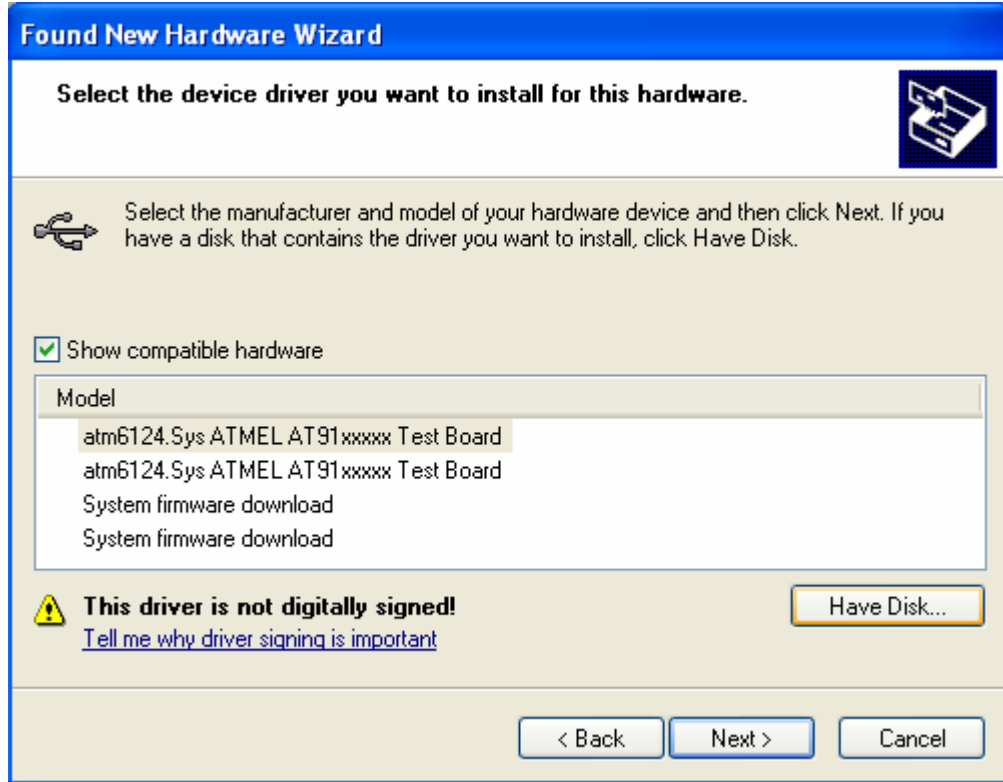

Fig. 06
Step 6: Click on “Have Disk” button to continue. (Fig. 06)